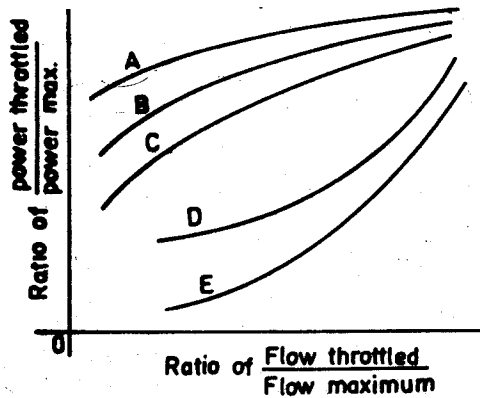

Fig. 21
58. In industry, it is often required to control volume of air delivery by fans. Fig. 21 shows the effectiveness of various methods of controlling the same